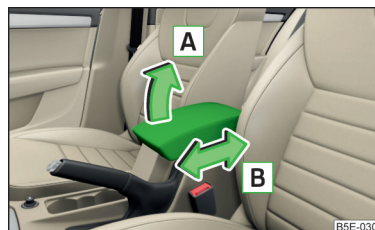

Fig. 73
► First of all, fold the armrest downwards and then lift it in the direction of the arrow **A** » Fig. 73 to one of the 4 rest positions.
► Move the cover into the desired position in the direction of the arrow **B** » Fig. 73.